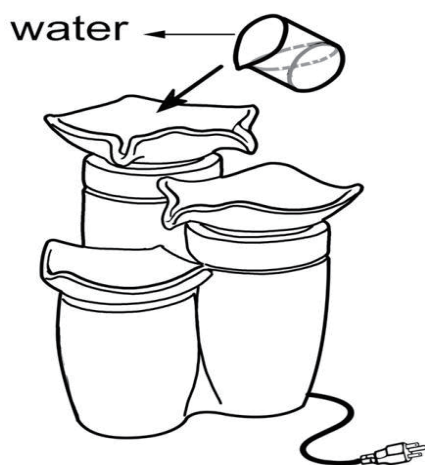

Fig.3
4. Add clean water into the basin. The water level should be approximately 1 in. / 25 mm lower than the top edge of the opening at the back of the basin. After that, connect the pump to a GFCI outlet and the product will begin to function as intended. (Fig. 3)